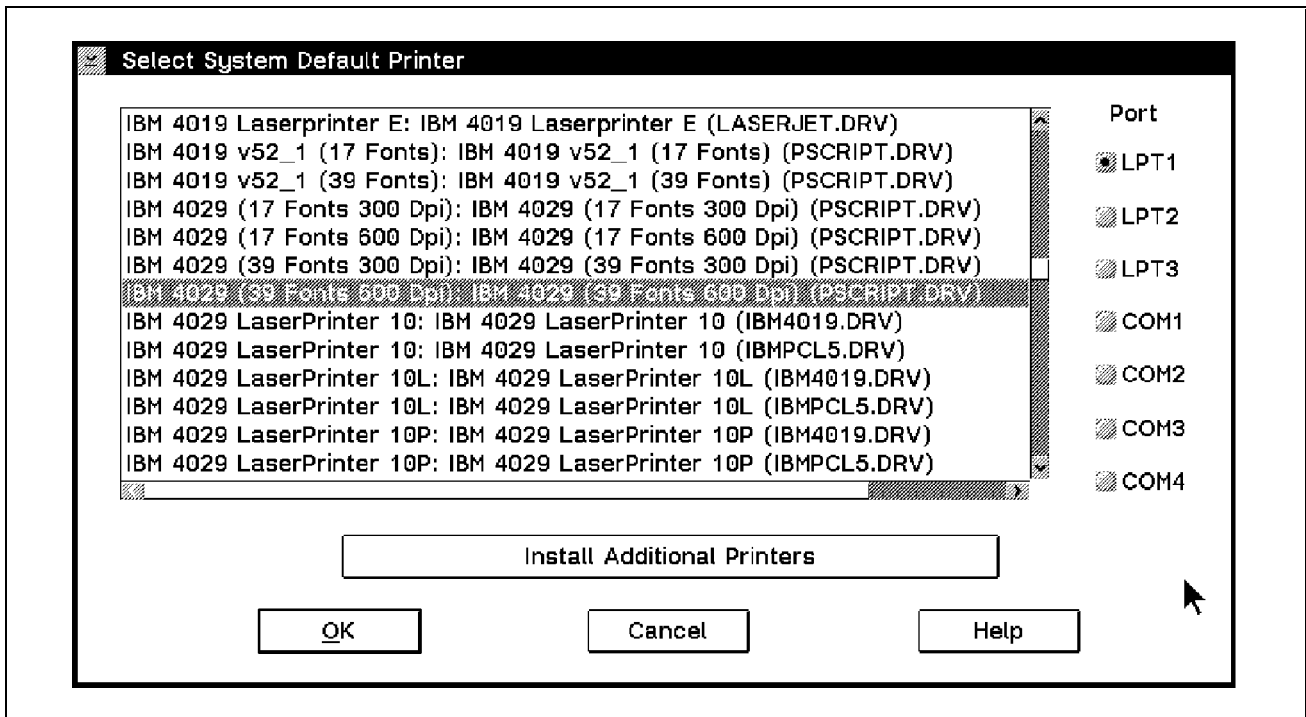

Figure 26. The System Default Printer Dialog
You can install multiple printer device drivers during system installation by clicking on the **Install Additional Printers** push button (see Figure 26 on page 89).
- Click on the **Printer** icon in the lower right corner. The Select System Default Printer dialog appears (see Figure 26 on page 89).